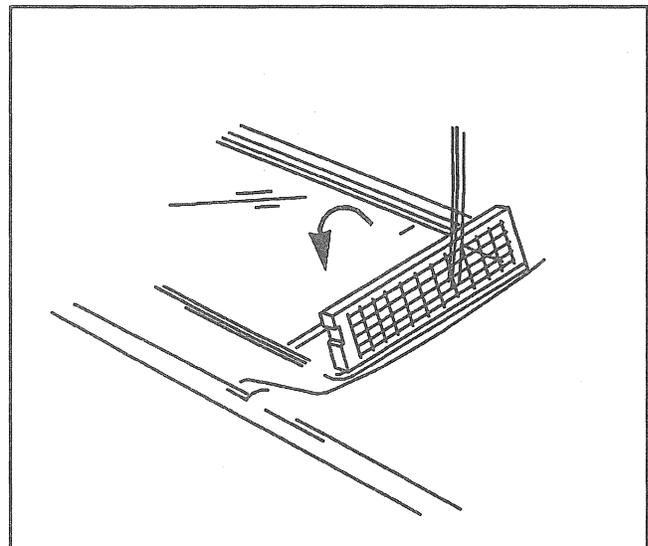

Figure 40—Sunshade with Illuminated Vanity Mirror
**↔** Remove or Disconnect (Figure 40)
**↔** Install or Connect (Figure 40)